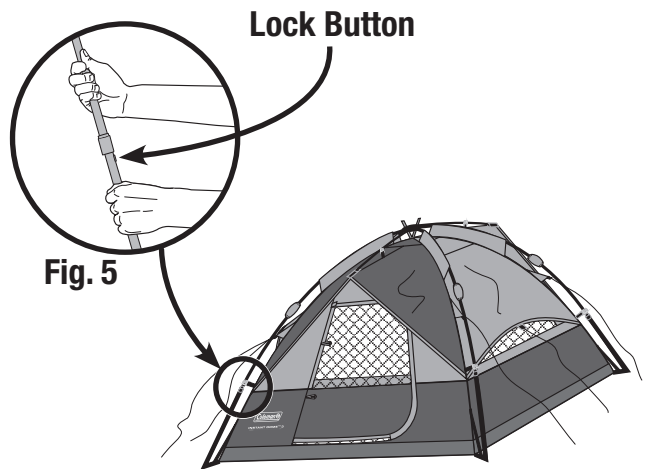

Fig. 5
- Extend each of the telescoping leg poles until they snap into place. The tent will raise as the leg poles are extended. (Fig. 5)
- Lower one leg pole at a time by pushing the lock buttons and collapsing the telescoping leg poles. (Fig. 5)